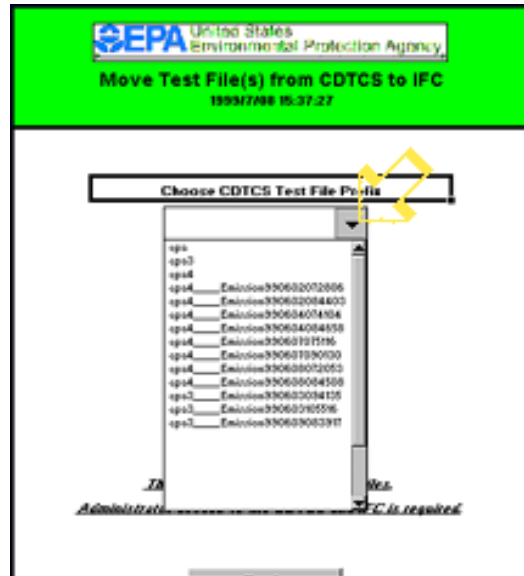

Figure 38
The "Move Test File(s) From CDTCS to IFC" screen will appear. See Figure 38.
- 804 Under "Choose Test File(s)," click on the down arrow and select the test ID. See the arrow in Figure 38.